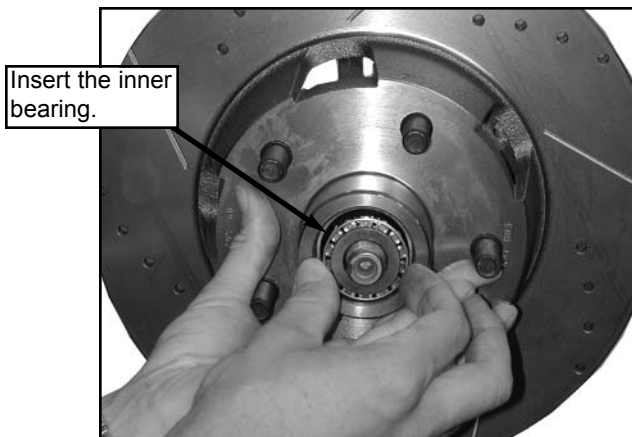
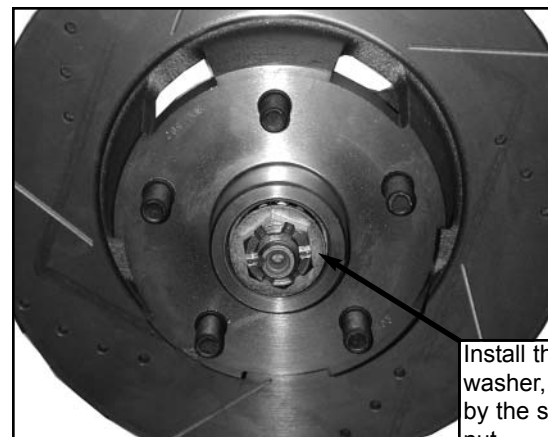

Figure 3
Figure 4
2. Slide the rotor onto the spindle (with the greased inner bearing and the rotor seal already installed) followed by the greased outer bearing (As shown in Figure 3), the keyed washer and the spindle nut (As shown in Figure 4). Tighten the spindle nut until rotor moves freely but is not loose. Then install the spindle nut retainer and the cotter pin to secure.